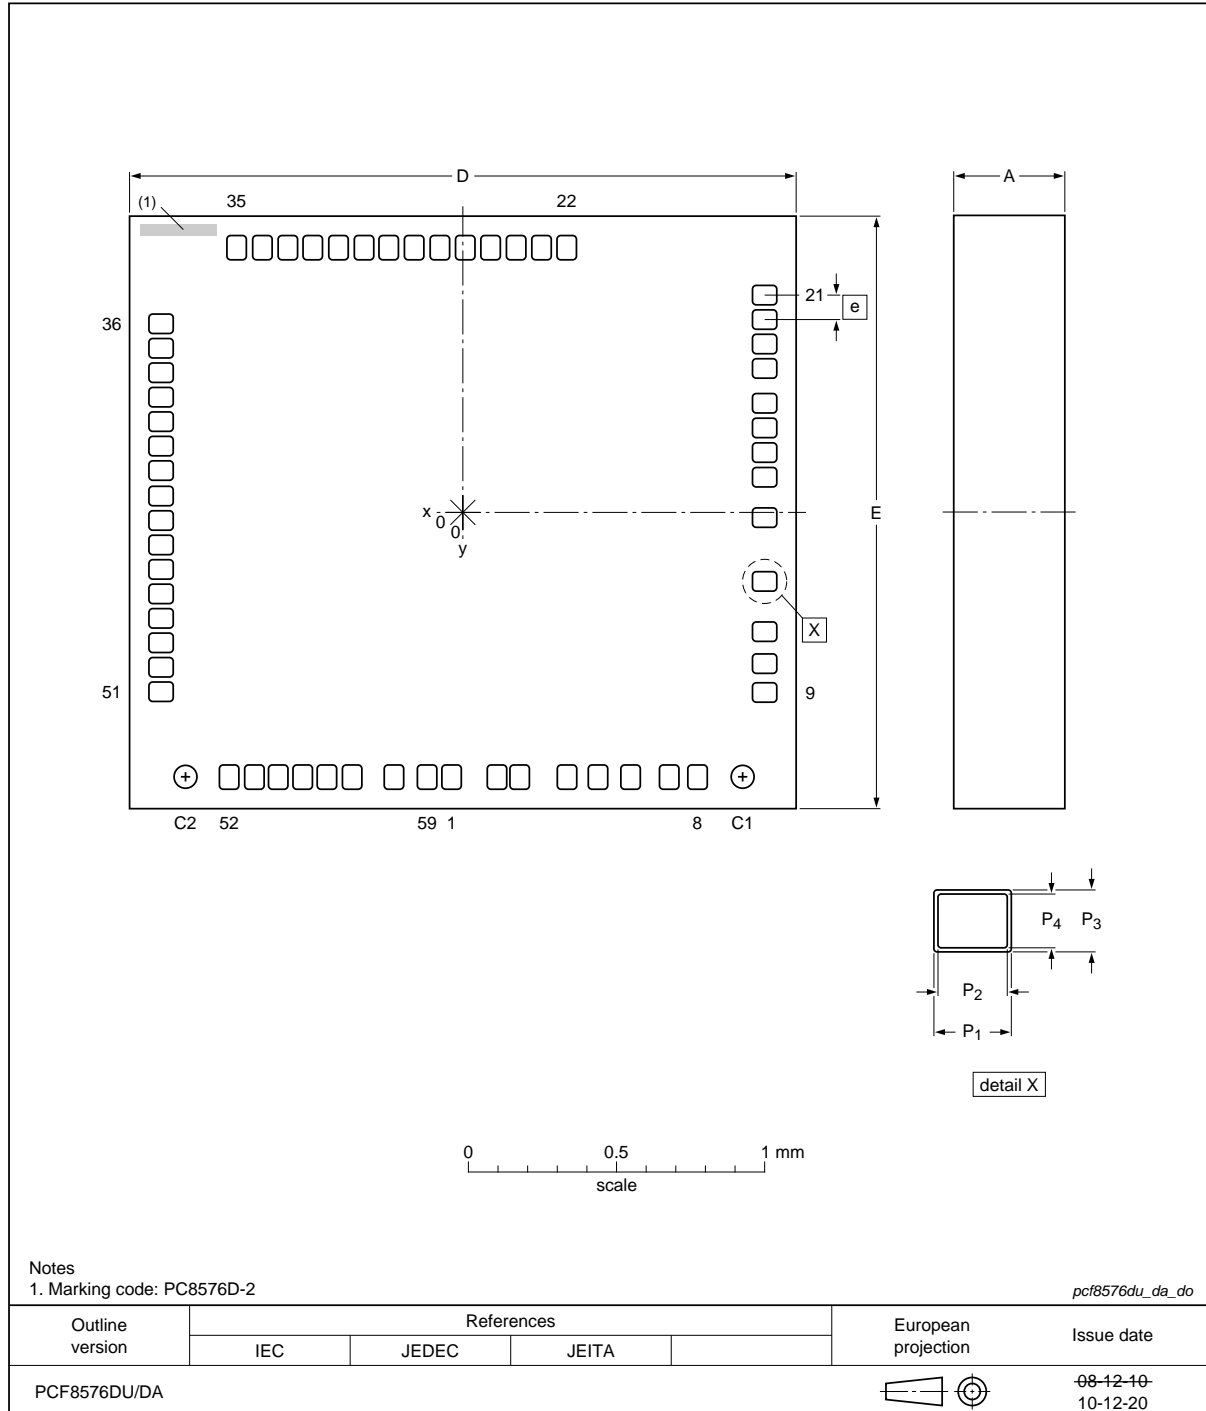
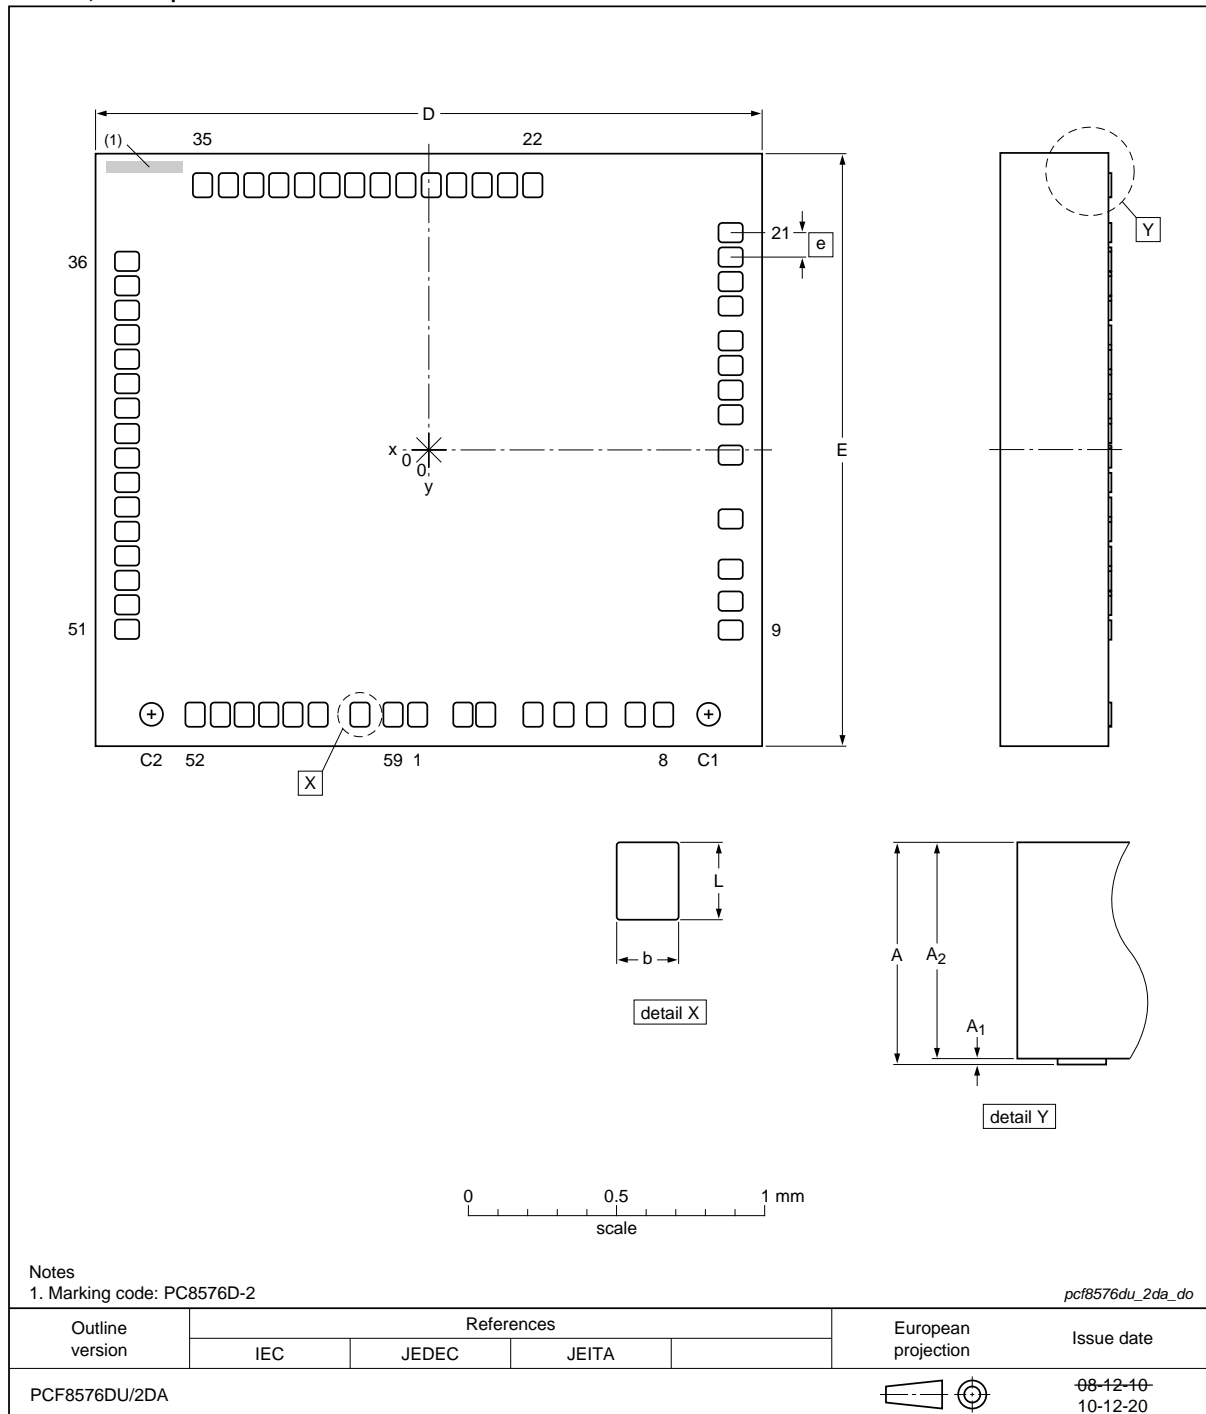

Fig 26. Bare die outline PCF8576DU/DA (for dimensions see Table 22)
Fig 27. Bare die outline PCF8576DU/2DA (for dimensions see Table 23)
**Table 24. Bonding pad location for PCF8576DU/x**All x/y coordinates represent the position of the center of each pad with respect to the center (x/y = 0) of the chip (see Figure 3, Figure 26 and Figure 27).
All x/y coordinates represent the position of the center of each pad with respect to the center (x/y = 0) of the chip (see Figure 3, Figure 26 and Figure 27).
All x/y coordinates represent the position of the center of each alignment mark with respect to the center (x/y = 0) of the chip (see Figure 3, Figure 26 and Figure 27).